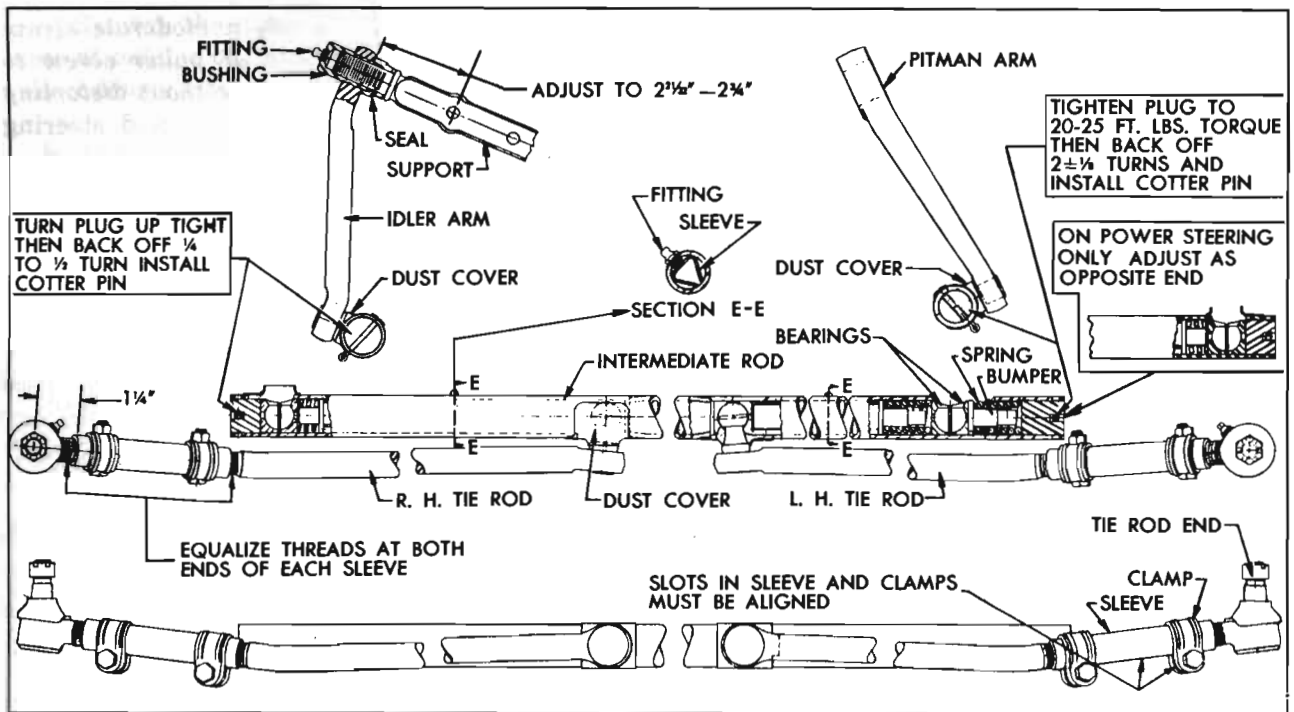

Figure 8-5—Steering Linkage
Intermediate Rod Plug Adjustments.....	See fig. 8-5
The Parallelogram type steering linkage is used to connect both front wheels to the steering gear pitman arm. As shown in figure 8-5, the right and left tie rods are connected to a tubular intermediate rod. The left end of the intermediate rod is supported by the pitman
Each ball stud riveted to the tie rods, pitman and idler arms seats between pairs of ball socket type bearings contained in the intermediate rod. The bearings are held in firm contact with the ball studs through pressure applied by heavy coil springs located at the pitman and idler arm stud bearings. Steel spacers transmit this spring pressure to the tie rod ball stud bearings. See figure 8-5.
Flanged steel bumpers extending through the springs act as spring guides, permit a restricted movement of ball studs and bearings as the springs absorb road shock, and prevent the bearings from spreading and releasing the ball studs in the event of spring breakage. The spring tension and clearances at ends of bumpers are adjusted by the threaded end plugs. See figure 8-5.
The tie rod end, which connects each tie rod to a steering arm, is a spring-load ball stud and socket unit assembly. A rubber dust seal fits over the stud where it emerges from the socket, to provide protection against entrance of dirt and water. The tie rods are connected to the tie rod ends by internally threaded sleeves which provide for toe-in adjustment. The sleeves are slotted and provided with clamps at each end to lock them in place. See figure 8-5.
1. Disconnect intermediate rod from pitman arm by unscrewing end plug until bearings will release the ball stud. See figure 8-5. Check tightness of pitman arm nut with 18" wrench.
The intermediate rod must be maintained in a level position to insure good steering action. This requires proper location of the idler arm on its support so that the idler arm ball stud will be level with the pitman arm ball stud. The support must be threaded into the idler arm bushing until the distance from the center of support lower bolt hole to the nearest face of idler arm is 2 7/8" to 2 31/32", as shown in figure 8-5. After any adjustment of idler arm on its support the front wheels should be checked to insure proper toe-in.